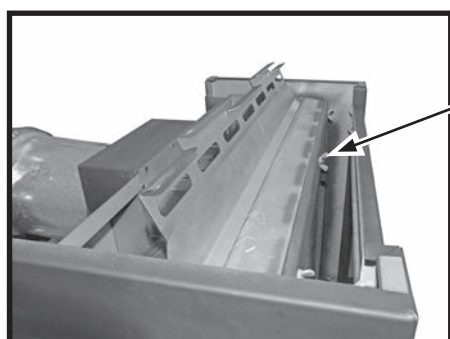
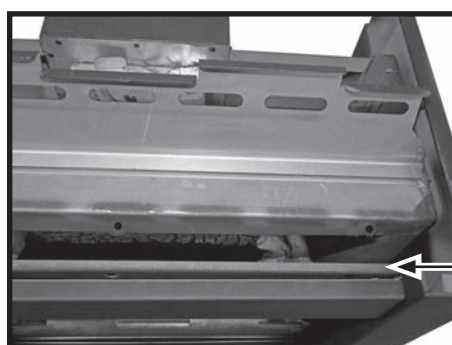

Figure 37: Glass door fasteners.
Figure 38: Trenton glass door frame.
2. Remove the wing nut bolts (Figure 37) securing the glass door retainer frame to the gas stove frame and tilt the glass door so that it can be removed (Figure 38).